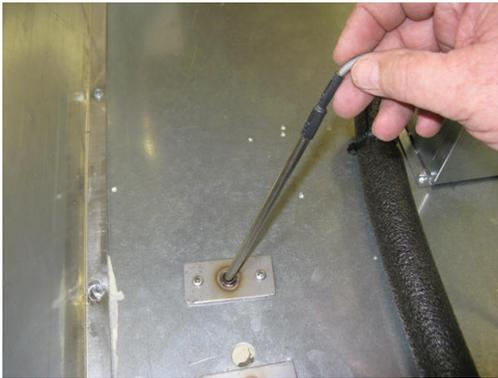

Figure 3: Inserting sensor in thermowell
3. Insert the sensor in thermowell as shown in Figure 3 and seal the opening with permagem.